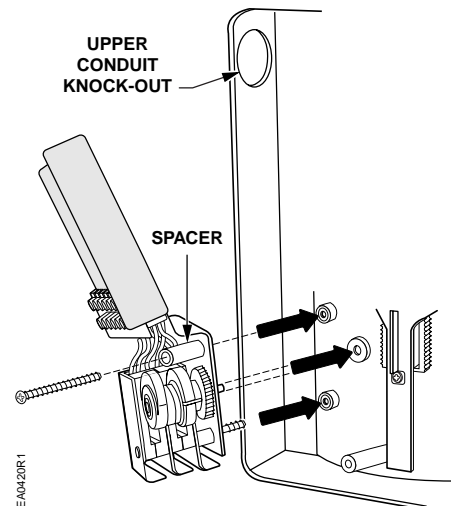

Figure 1. Step 4.
2. Remove the upper conduit opening knock-out. See *Figure 1*.